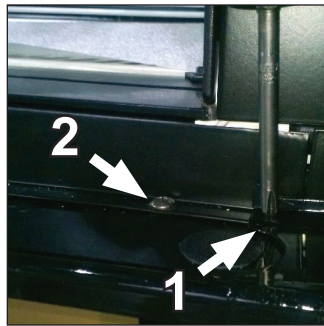

Fig 4.15 1) After removing any joint trim, 2) remove the upper and lower striker plates.
7. Remove faulty anti-condensate wire (Fig. 4.15).